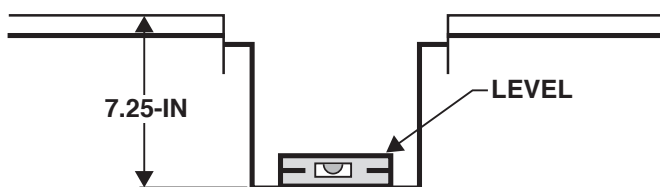

Figure 10D: U Shaped Box Depth Dimension
- Mount fabricated box so the bottom inside of the box is 7.25" below floor opening. See figure 10D.
- Use a level to level fabricated box. See figure 10D.